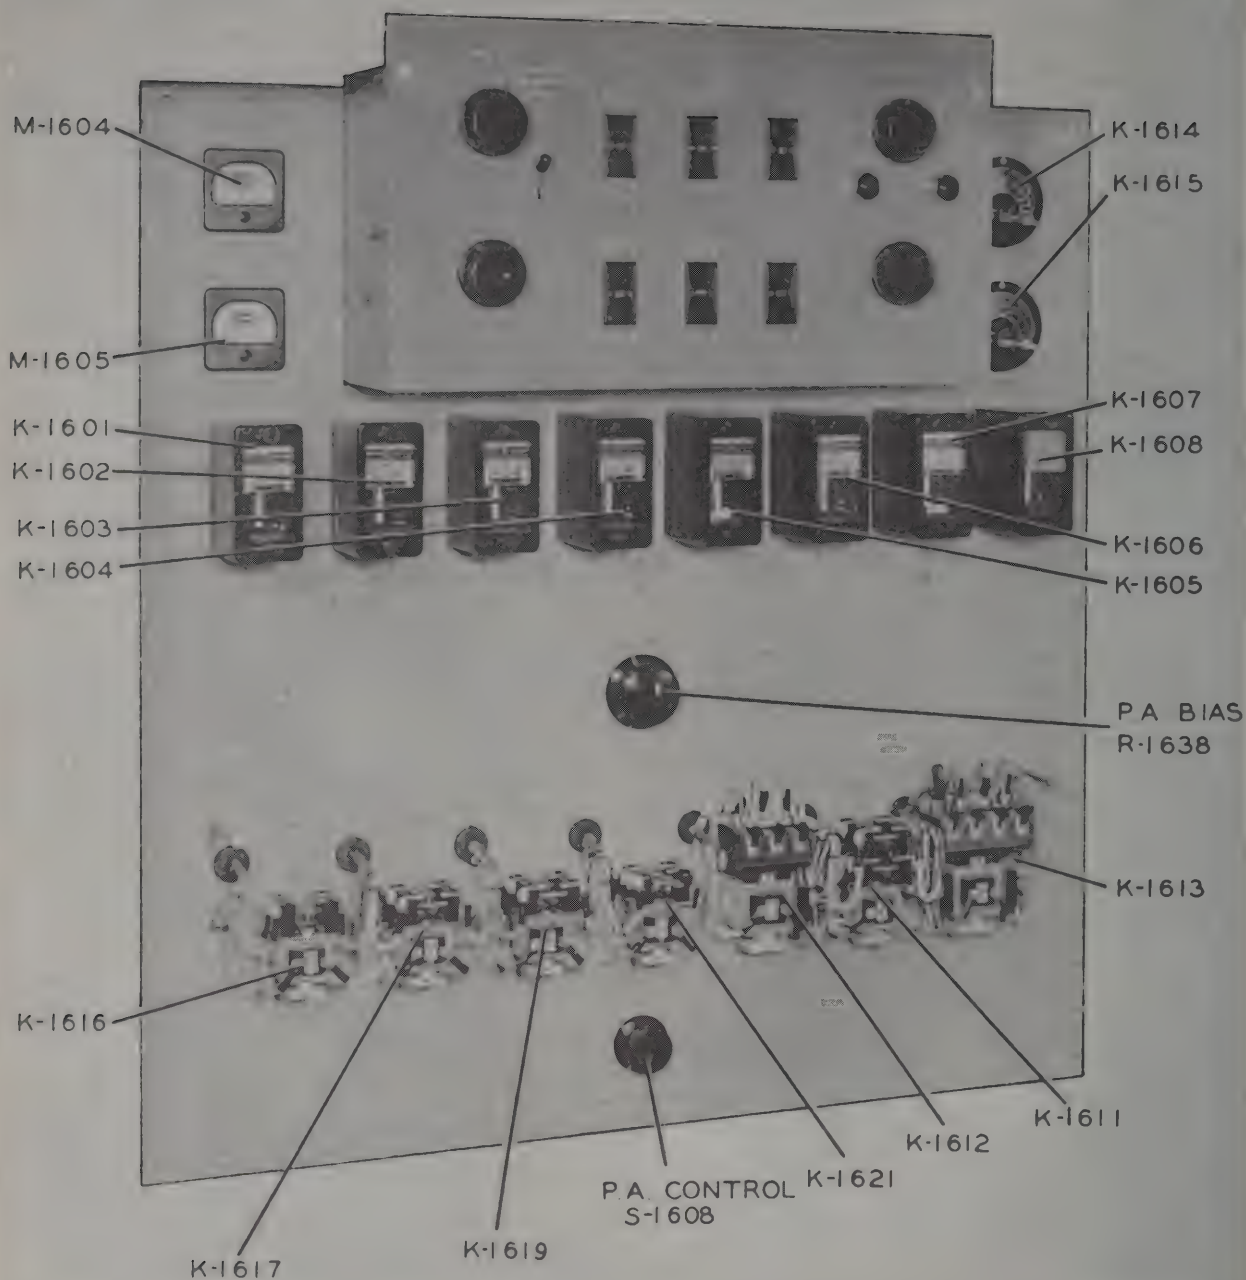

Figure 53. Relay Panel, Power Supply Assembly PP-1089/FRT-22.
*b. R-F Amplifier AM-738/FRT-22 and Power Supply Assembly PP-1089/FRT-22 (fig. 53).*
- (1) *Initial setting.* Set P. A. CONTROL switch S-1608 (located below relays inside of lower front door of Power Supply Assembly PP-1089/FRT-22) to ON position.
*Note.* A note covering the setting procedures of this type relay will be found under paragraph 31 a. (2) (j).